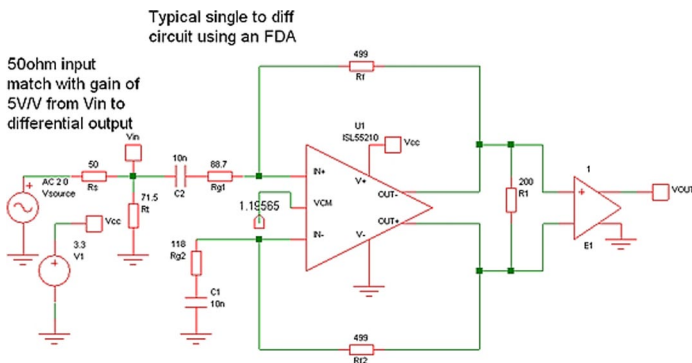
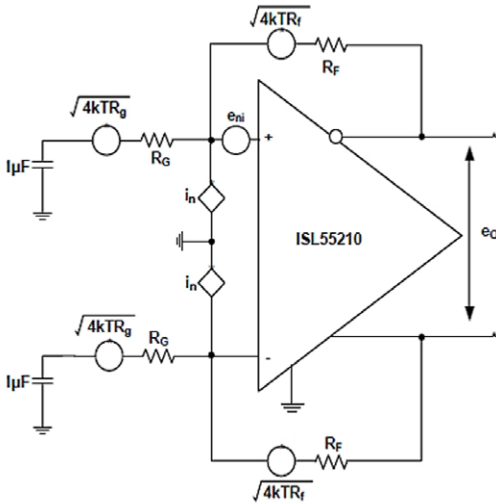

Figure 1. Gain of 5 V/V (14 dB), 50Ω input impedance, AC coupled, Single to Differential Design.
Figure 2. Noise analysis circuit for the FDA
One of the more useful functions supported by the growing range of FDA amplifiers is to convert from a single ended source to the differential output required by all modern ADC inputs. These can be either DC or AC coupled designs. When DC coupled, a careful attention to input common mode range is required and bipolar supplies can be useful, in that case, for many FDAs. For higher speed requirements, single supply is more common and an input match to some source impedance is often desired to limit reflections and/or SFDR degradation. While single supply FDAs can provide a DC coupled path, an AC coupled approach will be shown here to remove input common mode range considerations from this development. These same results will apply to a DC coupled design as long as the inputs stay in range. A typical AC coupled implementation of a doubly-terminated 50Ω input design is shown in Figure 1. This is targeting an example design set to a gain of 5V/V starting with a 499Ω feedback element and using a free Spice simulator to generate the schematic (Reference 1).
5. With Rg2 set, the noise gain (NG) for this circuit is  $1 + Rf/Rg2$ .
The particular example above is using a very low noise, 4GHz gain bandwidth, FDA – the ISL55210 – where, in this case, the design started by selecting an Rf value then proceeded to solve for the Rt and Rg1 elements. There has been very little vendor guidance in splitting that input match contribution between the Rt and Rg1 elements. The tradeoff is that driving the Rg1 element down (Rt up) will reduce the input noise and extend the bandwidth (for voltage feedback based FDAs). Going in that direction depends more on the common mode loop bandwidth to set the input match into the Rg1 path (Reference 2). While most reported approaches to deriving the resistor values for the circuit of Figure 1 have either been iterative or approximate, picking an Rf for a target gain (Av) and input impedance (Rs) can be manipulated into a quadratic solution for Rt (ref. 3).
Once a set of resistor values is determined using these design equations, they can be placed into a noise analysis circuit to arrive at a total output differential spot noise. All of the elements contribute to the noise as shown in the circuit of Figure 2 where the noise terms are shown as spot noise voltages and currents.
Stepping the Rf down for the example design of Figure 1, re-computing the other resistor values, and then the input referred noise, gives the results of Table 2. The resistor values (exact here) would be the same for any of these four example devices to give a gain of 5V/V from the input of Rt with a 50Ω input match (Reference 4). Input referring the output noise from Equation 5 by a gain of 5 gives the estimated input spot noise for each device in Table 2 (where these are still including the assumed 50Ω source noise collapsed into the Rg elements of Figure 2).